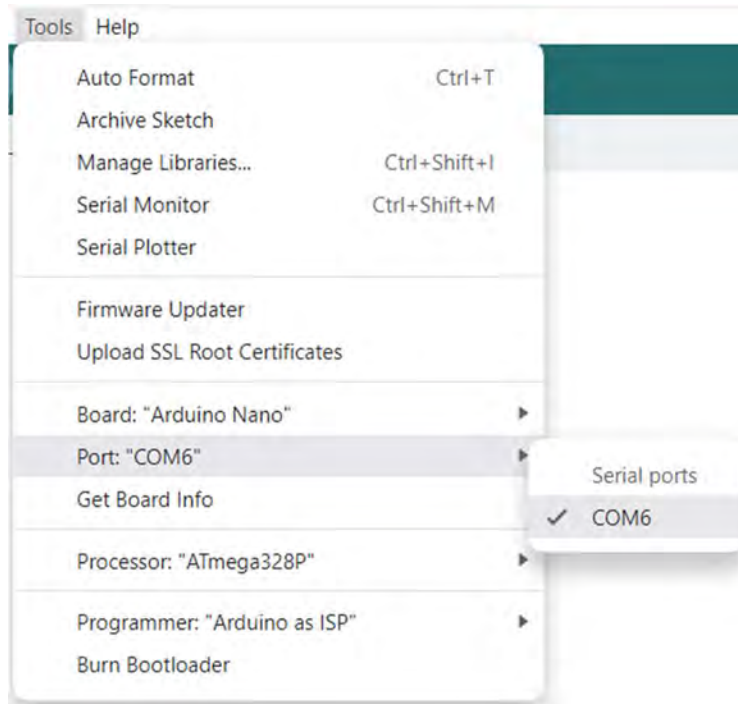
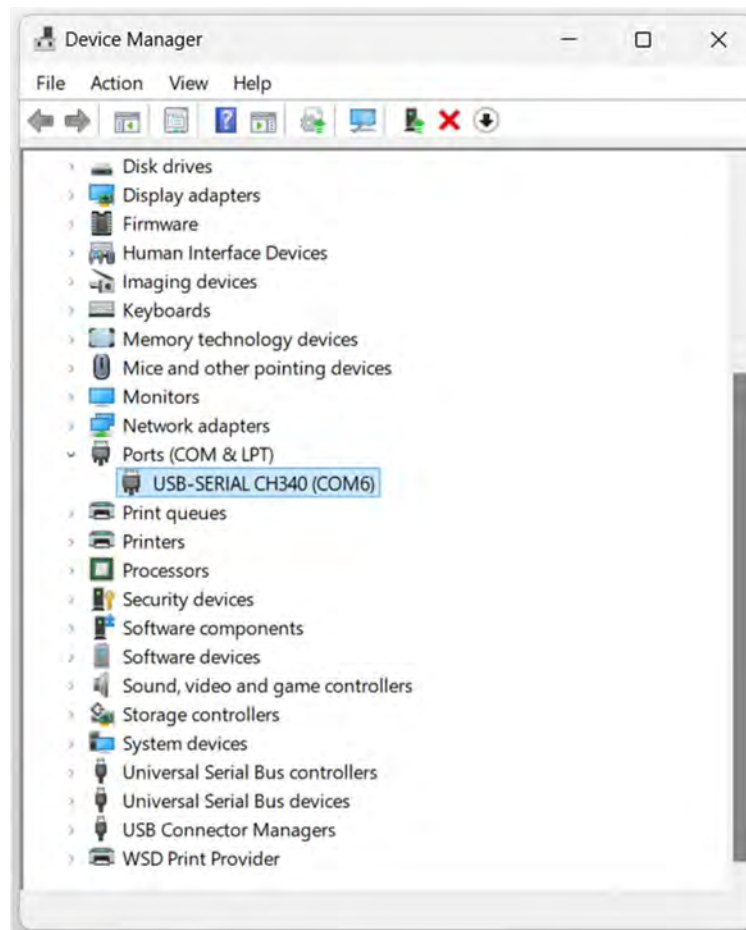

Figure 14: Port selection for the Nano Flip.
Figure 15: Device Manager, Ports.
- **Port selection:** Under “Tools” and “Port:” select the port that is being used with the USB-C cable that was inserted to the computer, as shown in Figure 14. To see the port being used open the Device Manager under section “Ports (COM & LPT)” or similar. The correct port should be labelled with “CH340”. As an example, see Figure 15. There are several reasons why this port or even the entire Ports section may not be showing. See Section 6.1 for details on CH340 driver installation, or Section 6.4 for troubleshooting help.